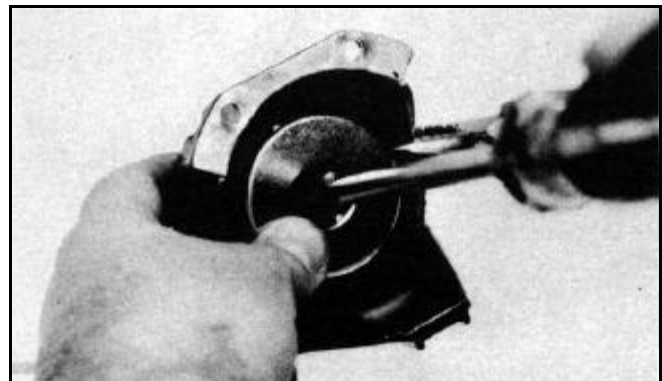

Figure 233
4. Remove the Phillips screw from the center of the starter assembly and carefully remove the metal pulley cover from the pulley (Figure 233). The pulley may be held in place with a locking plier.